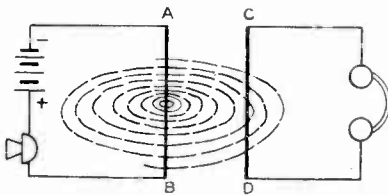

Fig. 18. Electro-magnetic induction.
**33. TRANSMISSION:** The two ways in which energy can be transferred from the transmitting antenna to the receiving aerials are by electromagnetic induction effect and by electrostatic and electromagnetic wave radiation into space. Fig. 18 shows a simple circuit for transmission by inductive effect.